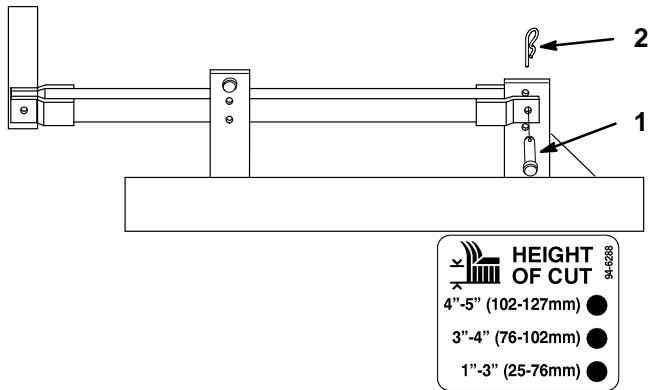

Figure 21
4. To change the side-to-side leveling, loosen upper flange nut(s) and adjust lower locknut at the front of the mower (Fig. 21).
4. To change the front-to-rear pitch, change pin location at center stabilizer mounts on both sides (Fig. 21).